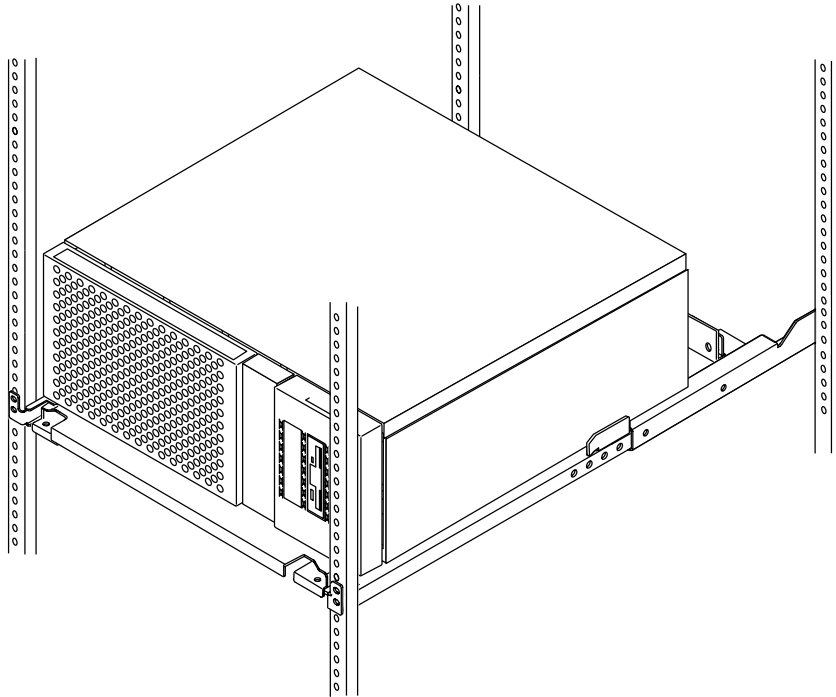

FIGURE 11 Placing the Ultra 30/60 System in the Rack
3. Slide the system back until it is slightly behind the front of the rackmounting tray (FIGURE 11).